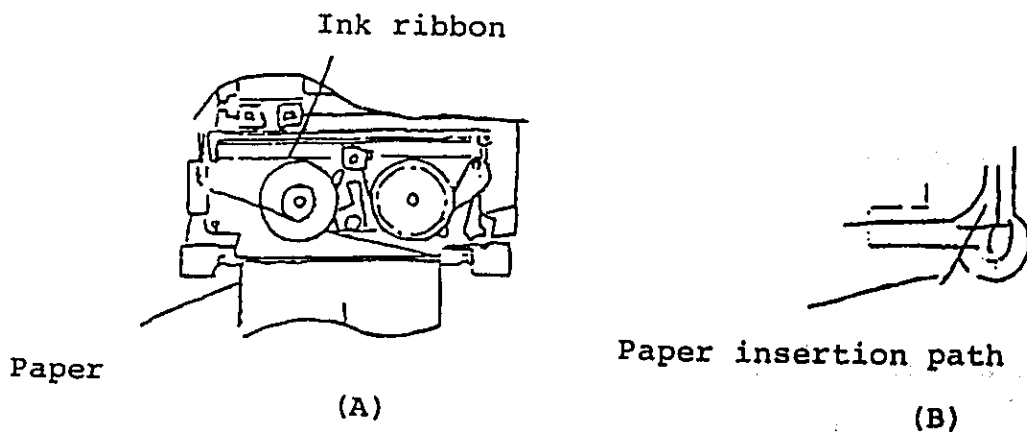

Fig. 6-1 Ink ribbon/paper replacement
- (1) Take out the detector from the containing box.
- (2) Impeller installation. Remove impeller shaft holder (4), and fix (4) with the shaft being inserted to bearing. At this time, when the shaft and bearing are fastened in loose condition, trouble such as breaking of bearing stone and failure of the impeller to turn normally may occur. Thoroughly check and then fix. Install the impeller so that there is more or less play in the front and rear. Check tightening condition of bearing lock nut so that the impeller does not become loose during measurement.
- (3) Connect power cord.
- (4) Connect detector cable.
- (5) Set ink ribbon and paper.
Set ink ribbon as shown Fig. 6-1(A) and apply tension so as be slack.
Insert recording paper through he path shown in Fig. 6-1(A) and (B), set the PRINT switch to MANUAL, and press FEED switch. Then the paper is fed automatically.